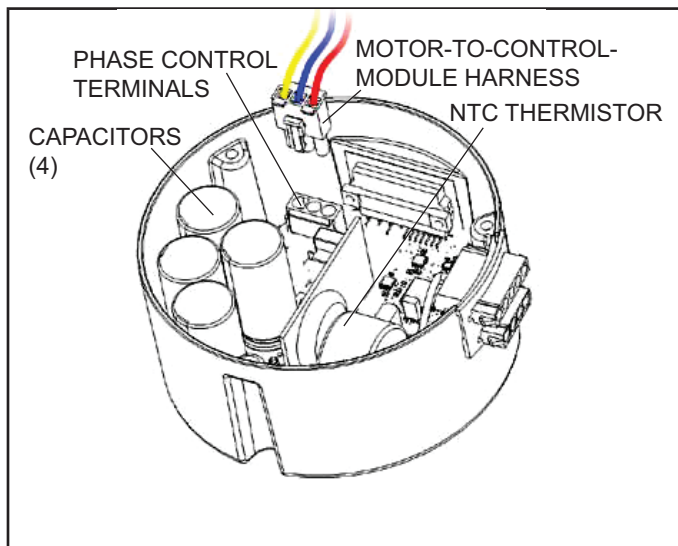

Figure 3
- 6 - Disconnect the three-wire motor-to-control-module harness (see Figure 3). If control module side terminals are damaged, replace the control module. If terminals are not damaged, move to Step 7.